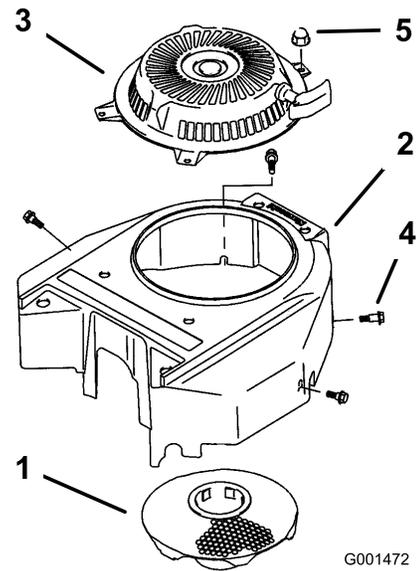

Figure 35
3. Remove the air-intake screen, the recoil starter, and the fan housing (Figure 35).
5. Install the air-intake screen, the recoil starter, and the fan housing (Figure 35).